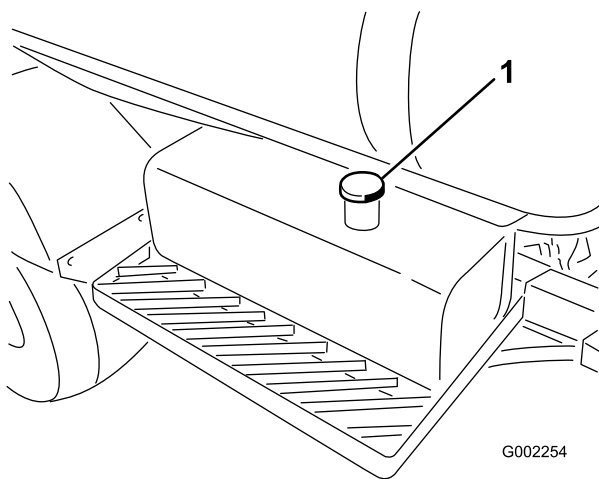

Figure 58
3. Clean the area around the hydraulic oil tank cap and remove it (Figure 58).